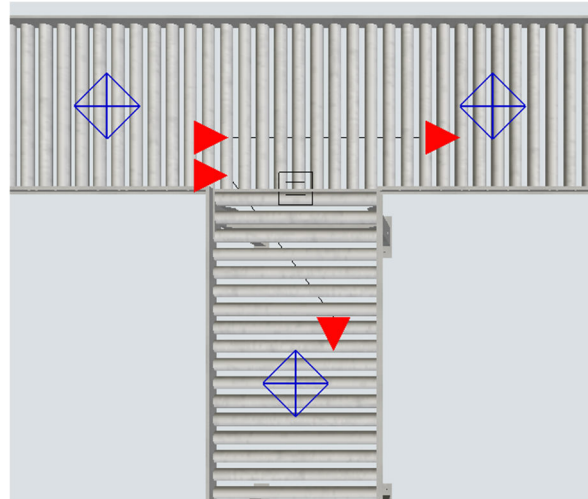

Fig. 14 Decision points - directional connections
1. **Send Item** – allows you to send a flow item along a specified path. Although decision points do not have *Input/Output ports*, they can be connected via *directional connections* to define the flow logic (Fig. 14).